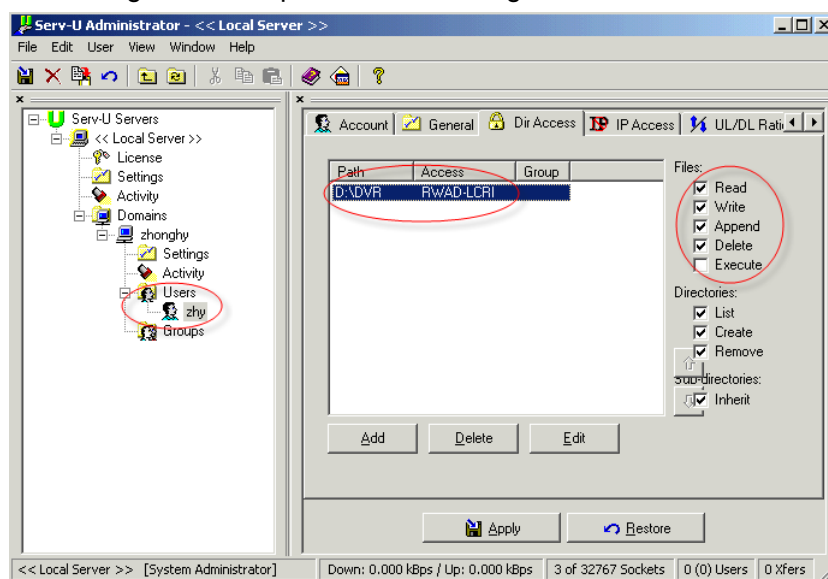

Figure 4-64
-> Serv-U Administrator. Now you can set user password and FTP folder. Please note you need to grant write right to FTP upload user. See Figure 4-64.